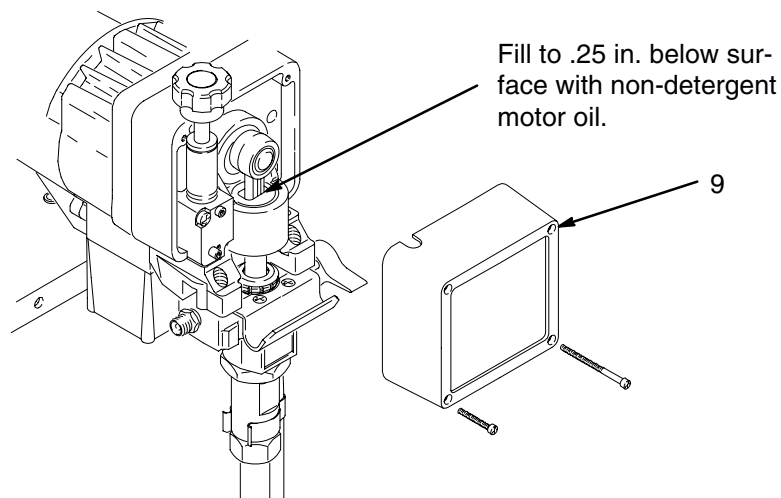

Fig. 4
Monthly: Remove the front cover (9) and fill the cavity in the connecting rod with non-detergent motor oil 1/4 in. below the surface. See Fig. 4.